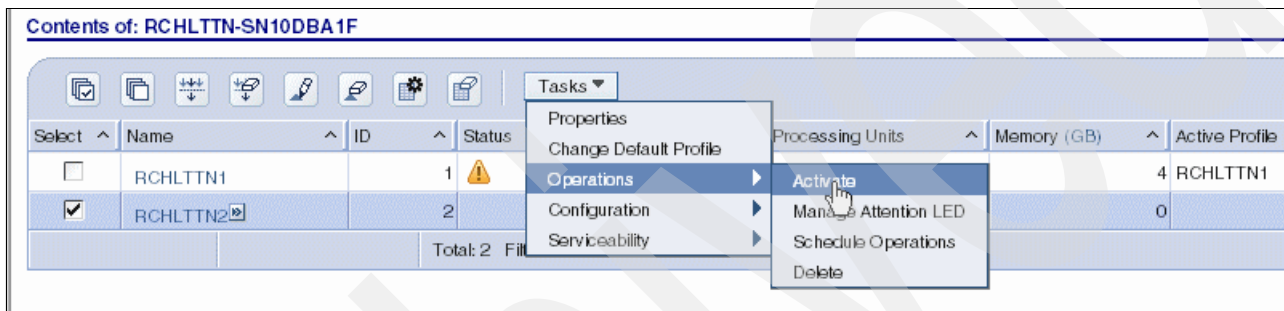

Figure 6-2 Activating the target partition
3. Select **Tasks** → **Operations** → **Activate** from the drop-down menu (as shown in Figure 6-2).